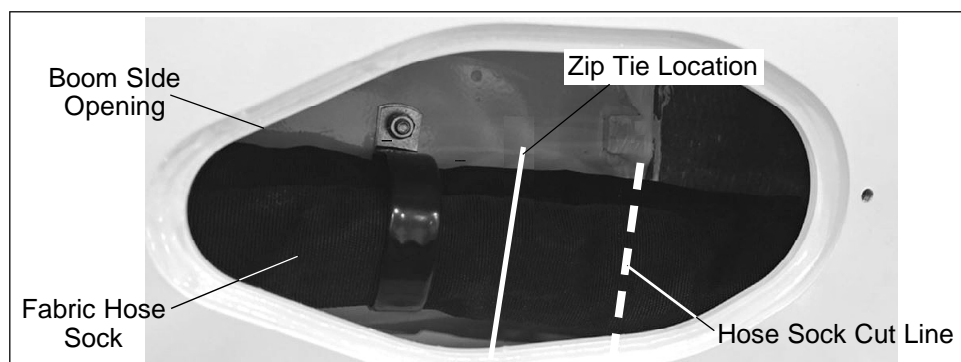

Figure 3 — Securing the Hose Sock
5. Use a zip tie to secure the fabric hose sock in place about 1" to 2" from the black hose clamp bolted inside the boom (refer to Figure 3). Carefully cut and remove the hose sock about 1" to 2" past the zip tie (refer to Figure 3).